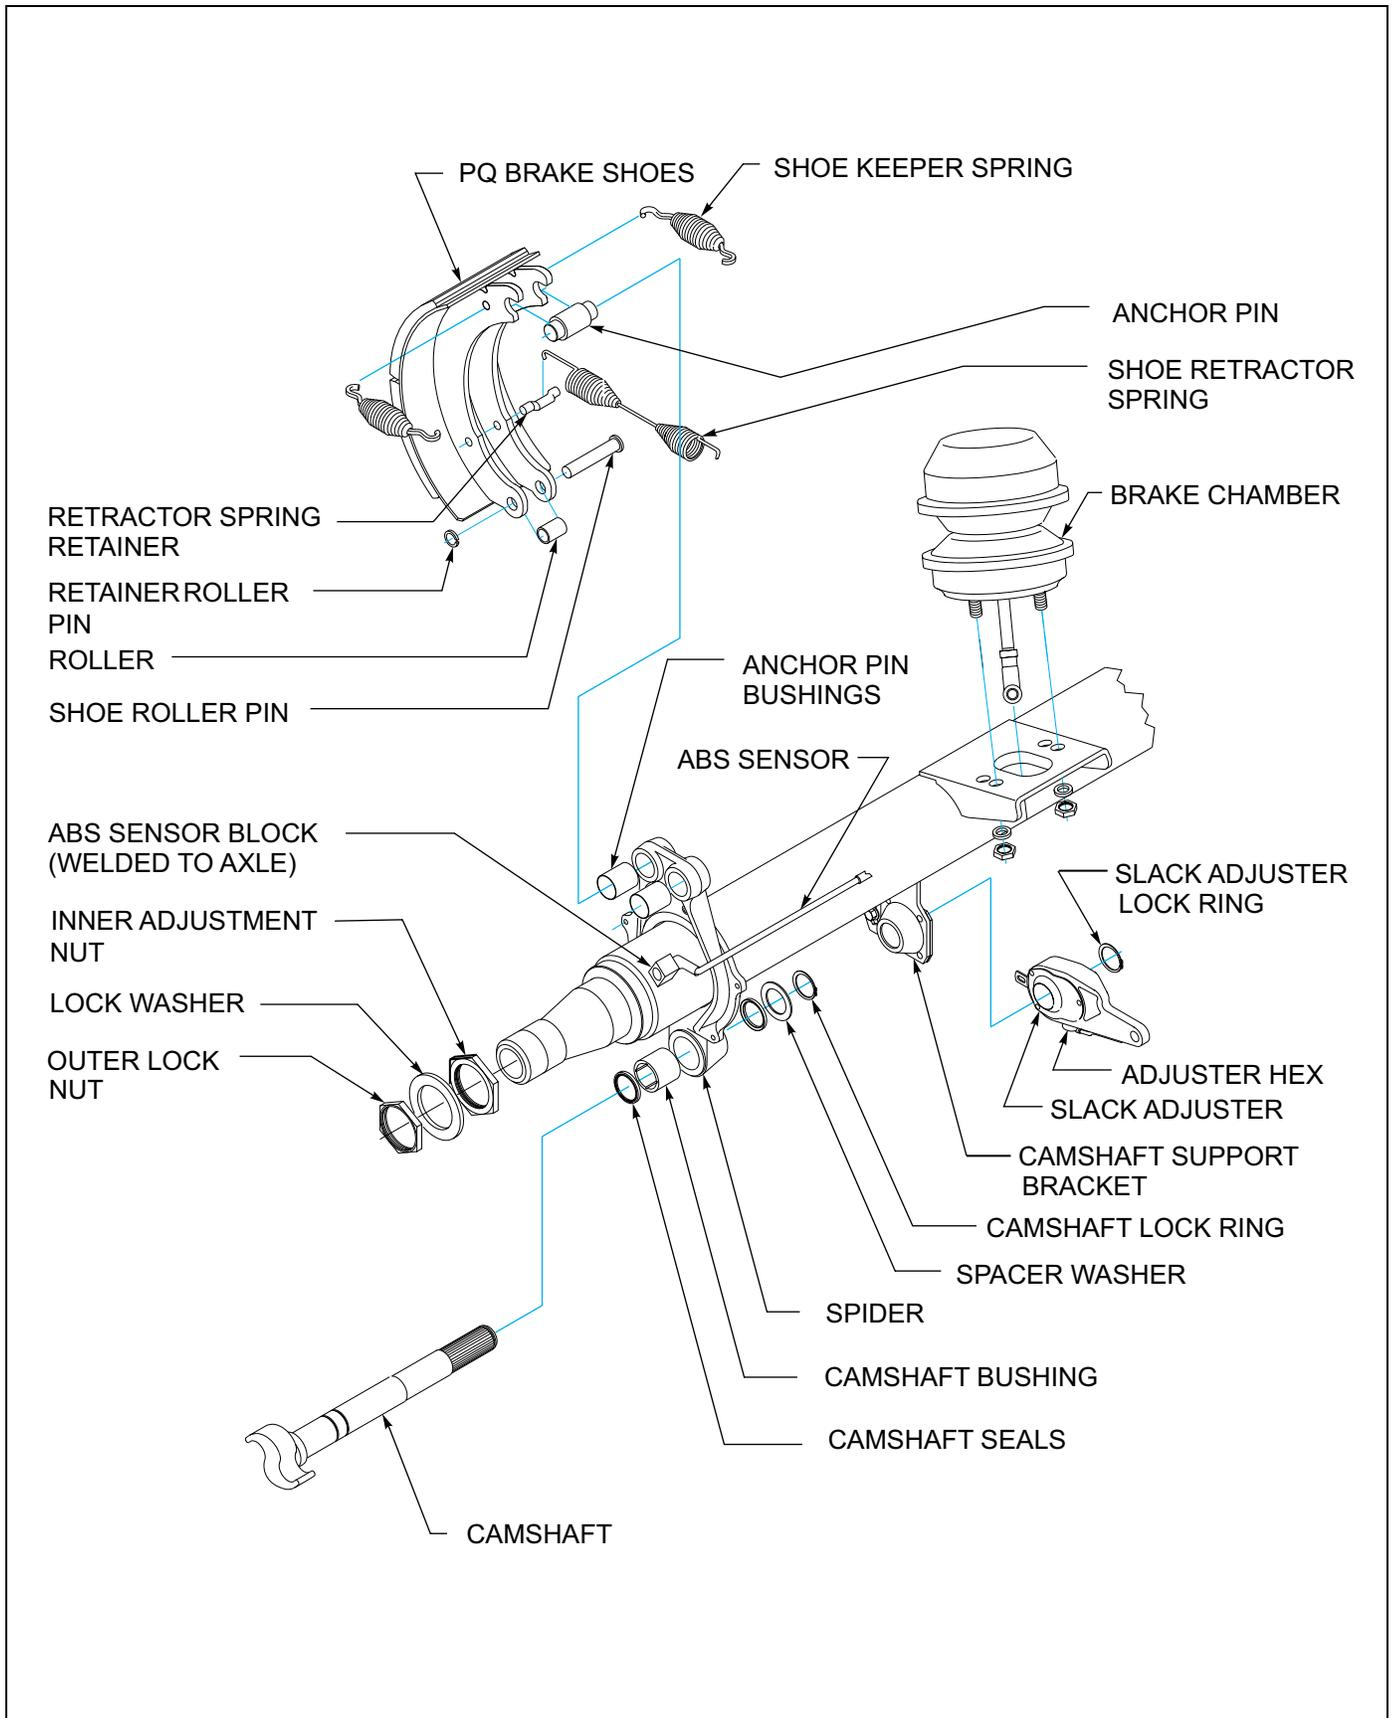

Figure 4-7: Axle and Brake Assembly
1. Release brakes and back off slack adjuster (**See Figure 4-7.**)
1. Install new anchor pin bushings, camshaft bushing and camshaft seals into the spider (**See Figure 4-7.**) When installing camshaft seals, the seal on the slack adjuster side is installed facing into spider. This allows grease to purge outside the brake assembly when greasing the camshaft bushing.